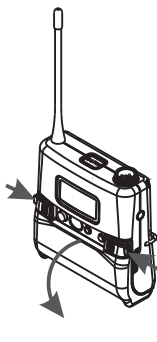

Fig. 25
1. Press the side hooks to open battery compartment. Remove the battery carefully, Fig. 25.